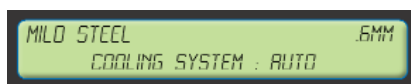
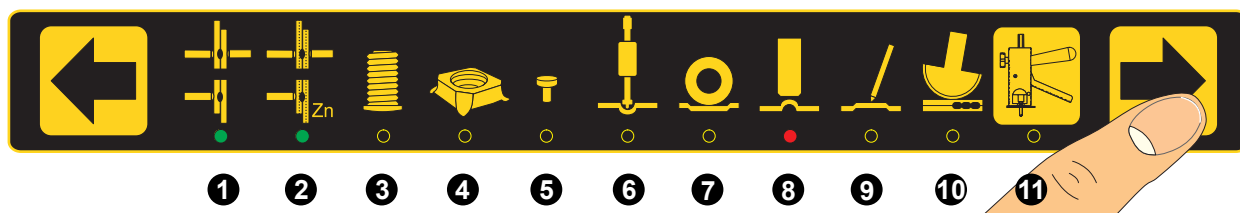

Figure 6.4
Figure 6.5 PR-2000 Weld Programs
2. Use the navigation buttons, Left or Right to select desired weld program (refer to section 4.8 "Setting the default weld program" or fig.6.5). The display text shows the currently selected program (fig. 6.4).
3. All modes shown in fig. 6.5 are available in Single-Sided mode except for PRO PULL which is activated by pushing on the PRO PULL Button.
1. Set the "Single spot" program on the control panel (refer to section 4.8 or fig. 6.5 "Setting the default weld programs"). Green Light will indicate the selected program (fig. 6.6). Make sure that the LED indicates: "Mild Steel or Galvanized Steel" (fig. 6.7).
1. Set the "Bolt Welding" program on the control panel (refer to section 4.8 or fig. 6.5 "Setting the default weld programs"). Green Light will indicate the selected program (fig. 6.10). Make sure that the LED indicates: "Bolt Welding" (fig. 6.11).
1. Set the "Nut Welding" program on the control panel (*refer to section 4.8 or fig. 6.5 "Setting the default weld programs"*).
1. Set the "Spot Hammer" program on the control panel (*refer to section 4.8 or fig. 6.5 "Setting the default weld programs"*).
1. Set the "Rivet Welding" program on the control panel (refer to section 4.8 or fig. 6.5 "Setting the default weld programs").